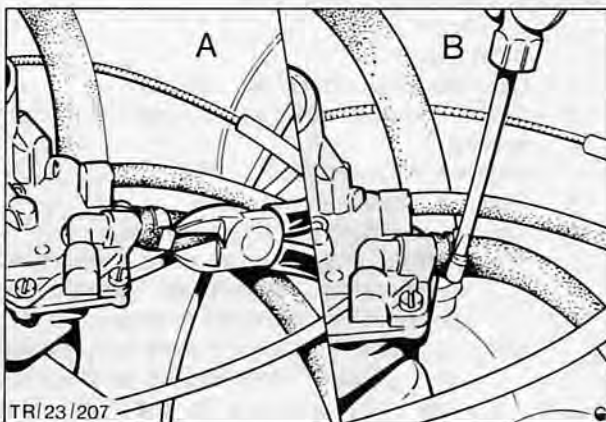

Fig. 48. Disconnecting and reconnecting fuel supply pipe
If a crimped type hose clamp is fitted it must be cut free and replaced with a screw type clamp, Fig. 48.
14. Reconnect fuel supply pipe. (Fig. 48.)